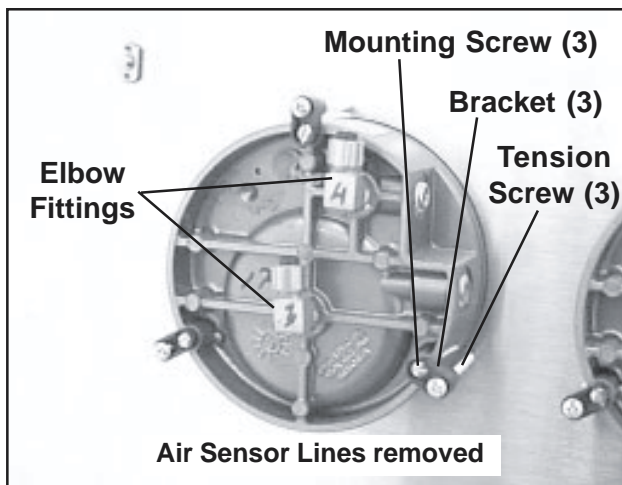

Figure 76. Filter Condition Blower Exhaust Gauge (other two gauges similar)
5. With a flat-blade or Phillips screwdriver, loosen the three tension screws on the back of the gauge (Figure 76).
8. With a 7/16 in. open-end wrench, remove both elbow fittings from the gauge and retain them for installation (Figure 76).
1. Install both elbow fittings into the new gauge (Figure 76).
4. Tighten down all three tension screws (Figure 76) until the gauge is held firmly in place in the panel.